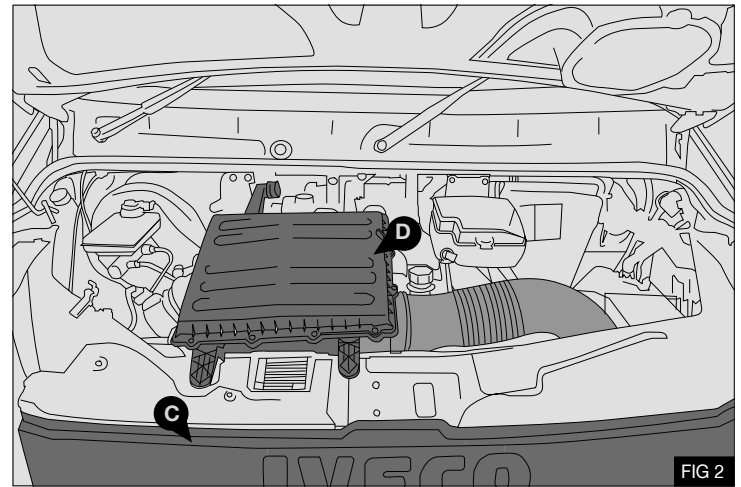

FIG 2
6. Remove front grille (C) and air filter box (D) - Fig 2